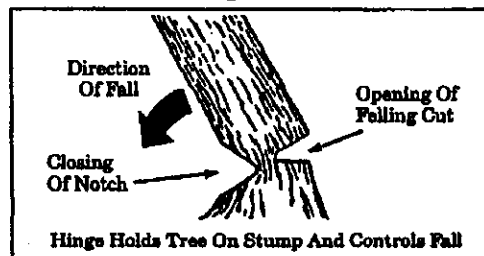

Figure 21
- b. Leave enough uncut wood between the felling cut and the notch to form a hinge. Figure 21.